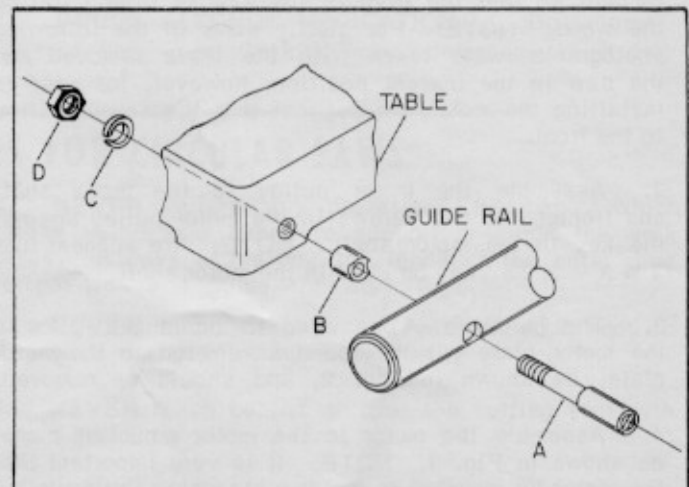
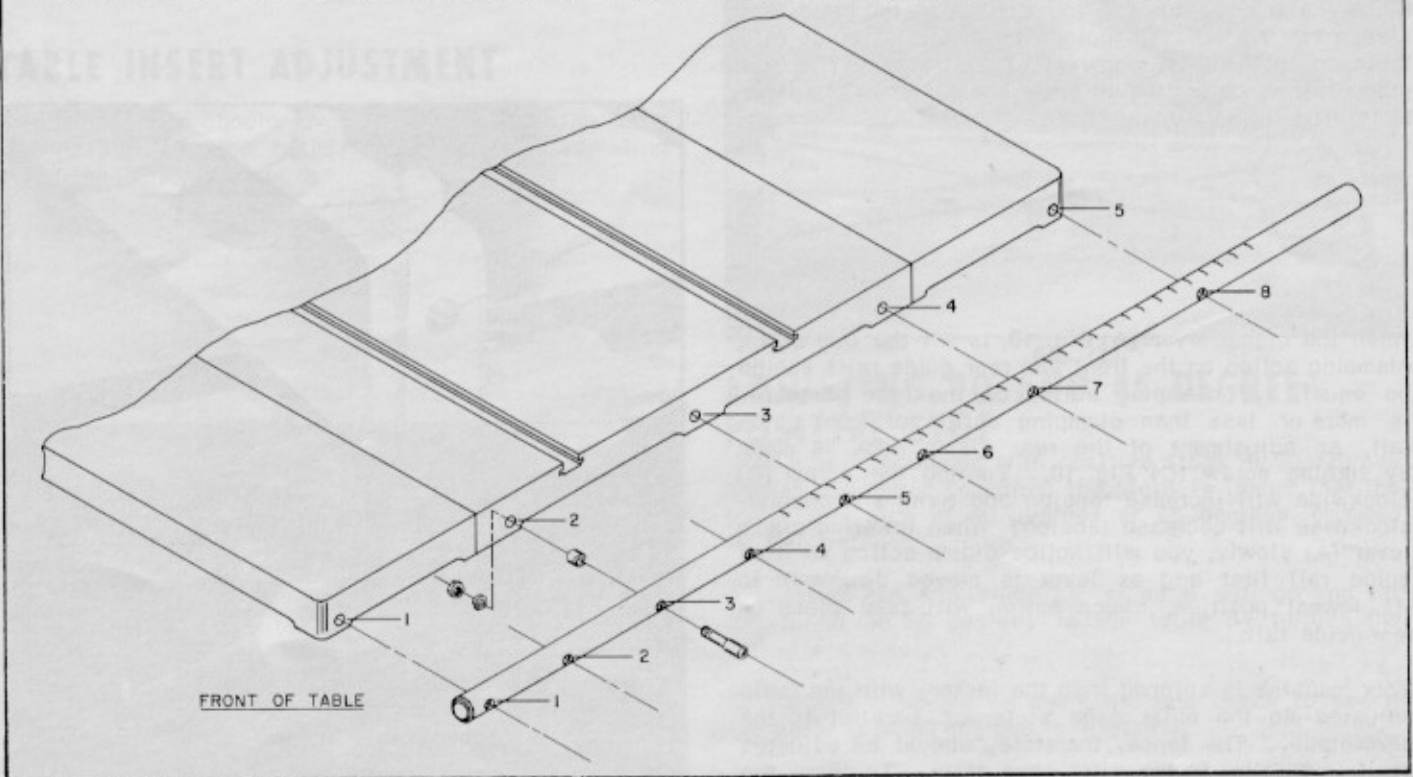

Fig. 7
Fig. 8
The guide rails can be mounted to the table for regular position or for 50" ripping capacity using the special screws (A), spacer (B), lockwasher (C) and nuts (D) supplied, as shown in Fig. 7. There are five holes in the table and eight holes in the guide rail. Determine which position you wish to mount the guide rails and refer to Fig. 8, for the correct holes to use in the table and rails.